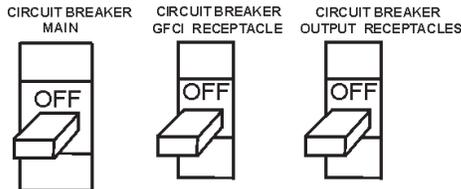

Figure 62. Main, GFCI and Load circuit breakers
1. Switch both the MAIN, GFCI and LOAD circuit breakers (Figure 62) to the “OFF” position.